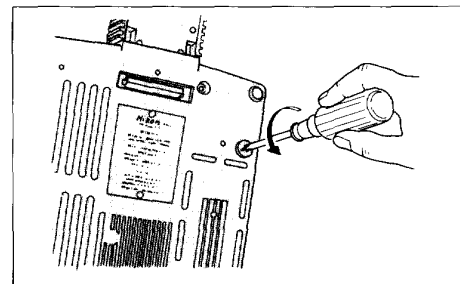

Fig. 2-2
- Remove the fuse holder at the bottom of the base using a plus screwdriver (Fig.2-2) and make sure that the metal part of the fuse indicates "125V 3.15A" for 100-120V or "250V T2A" for 220-240V.